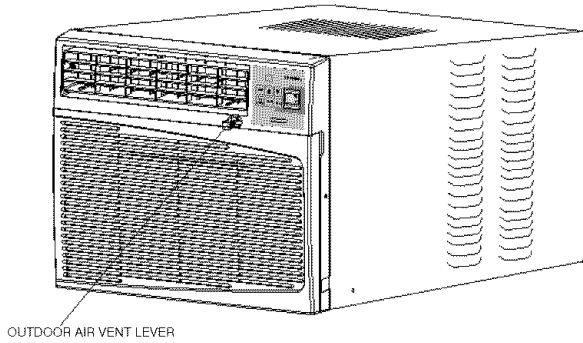

Fig. 20 – Outdoor Air Vent Lever
**NOTE:** Fresh Air ventilation is usually kept in the closed position. Use only when clearing smoke and/or odors from the room. Pull to open (see Fig. 20).